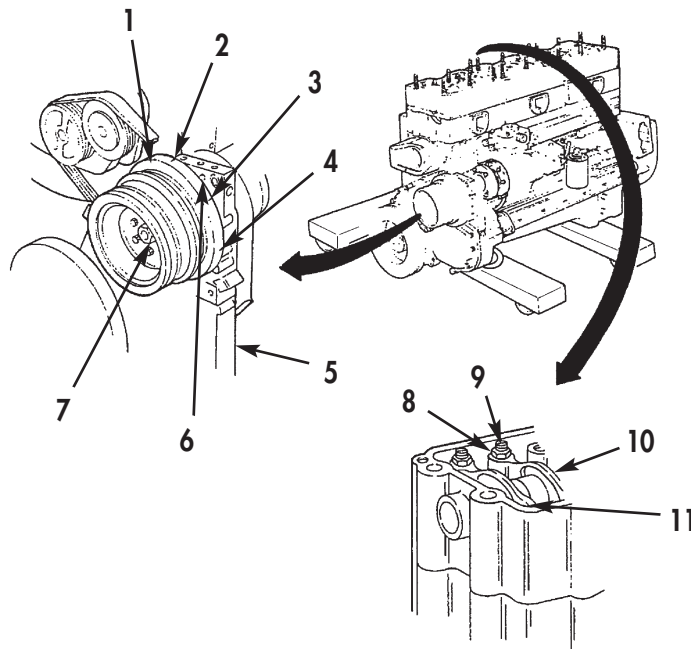

Figure 4. Injector Timing.
1. Install new gasket (11) on rocker arm housing (13).
2. Install engine brake retarder (3) on two rocker arm housing studs (14).
3. Install fan bracket (1) and two spacers (5) on two rocker housing studs (14).
4. Install six nuts (2) on rocker housing studs (14). Tighten nuts (2) 60 lb-ft (81 N•m) in sequence shown in figure 4.